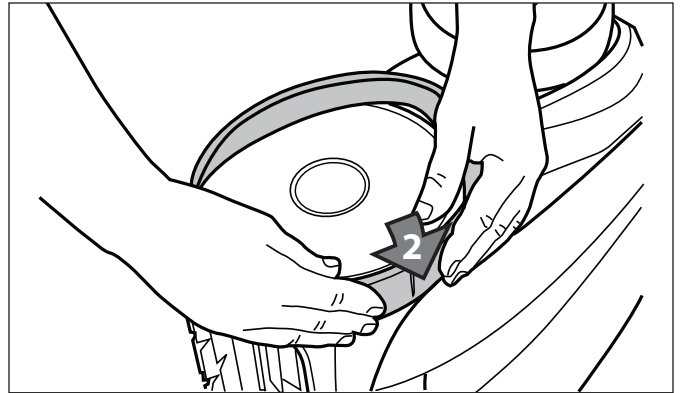

Figure 35. Start on One Side of the Tire
4. Push one side of the tire on to the wheel and fit the rib of the tire in the groove of the wheel as shown in Figure 35.